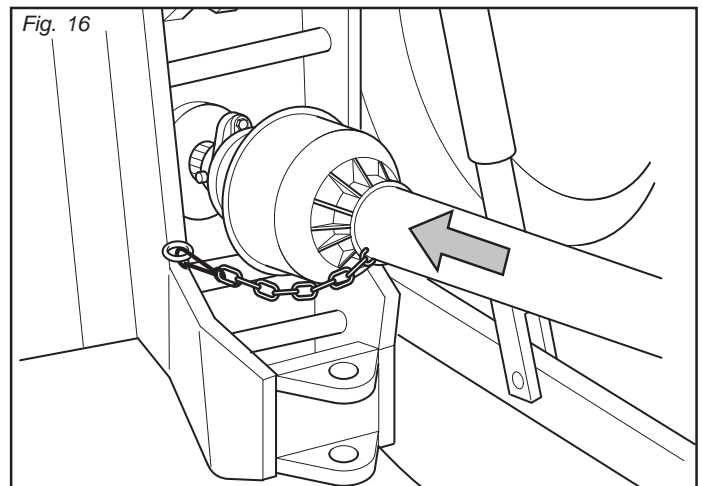

Fig. 16
- 4) Engage the cardan shaft and check that it is perfectly locked on the pto. Check that the guard is free to turn and fix it with the relative latch (Fig. 16).